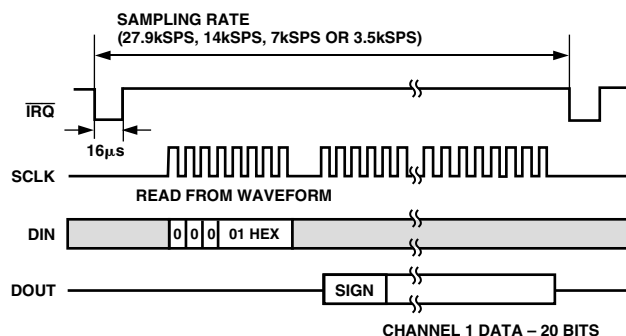
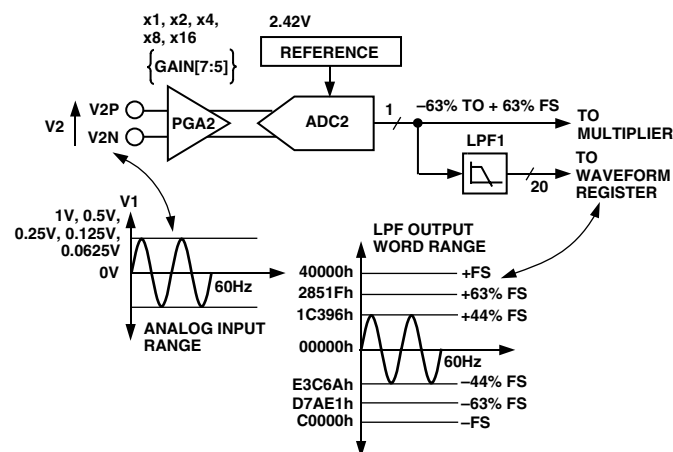

Figure 19. Waveform Sampling Channel 1
Figure 21. ADC and Signal Processing in Channel 2
Figure 21 also shows an analog low-pass filter (RC) on the input to the modulator. This filter is present to prevent aliasing. Aliasing is an artifact of all sampled systems.
When in waveform sample mode, one of four output sample rates may be chosen by using Bits 11 and 12 of the Mode register (WAVSEL1, 0). The output sample rate may be 27.9 kSPS, 14 kSPS, 7 kSPS or 3.5 kSPS—see Mode Register section. The interrupt request output \overline{IRQ} signals a new sample availability by going active low. The timing is shown in Figure 19. The 20-bit waveform samples are transferred from the ADE7756 one byte (8 bits) at a time, with the most significant byte shifted out first. The 20-bit data word is right-justified and sign extended to 24 bits (three bytes)—see Serial Interface section.
Note that LPF1 does not affect the power calculation. The signal processing chain in Channel 2 is illustrated in Figure 21. Unlike Channel 1, Channel 2 has only one analog input range (1 V differential). However, like Channel 1, Channel 2 does have a PGA with gain selections of 1, 2, 4, 8, and 16. For energy measurement, the output of the ADC is passed directly to the multiplier and is not filtered. An HPF is not required to remove any dc offset since it is only required to remove the offset from one channel to eliminate errors due to offsets in the power calculation. When in waveform sample mode, one of four output sample rates can be chosen by using Bits 11 and 12 of the Mode register. The available output sample rates are 27.9 kSPS, 14 kSPS, 7 kSPS or 3.5 kSPS—see Mode Register section. The interrupt request output $\overline{\text{IRQ}}$ signals a new sample availability by going active low. The timing is the same as that for Channel 1 and is shown in Figure 19.
The Active Power signal can be read from the Waveform register by setting MODE[14:13] = 0,0 and setting the WSMP bit (Bit 3) in the Interrupt Enable register to 1. Like the Channel 1 and Channel 2 waveform sampling modes, the waveform data is available at sample rates of 27.9 kSPS, 14 kSPS, 7 kSPS or 3.5 kSPS—see Figure 19.